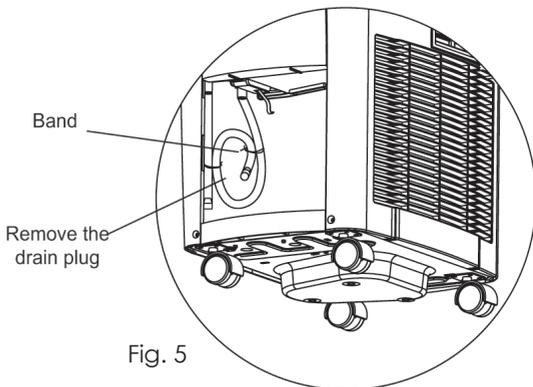

Fig. 5
- To connect the continuous drain option for Cooling and dehumidifying modes, firstly remove the water tank from the cabinet. Inside you will find a section of hose hanging beside the water tank, which is plugged at the end. Release the band and remove the drain plug from the end of the hose (See Fig. 5).